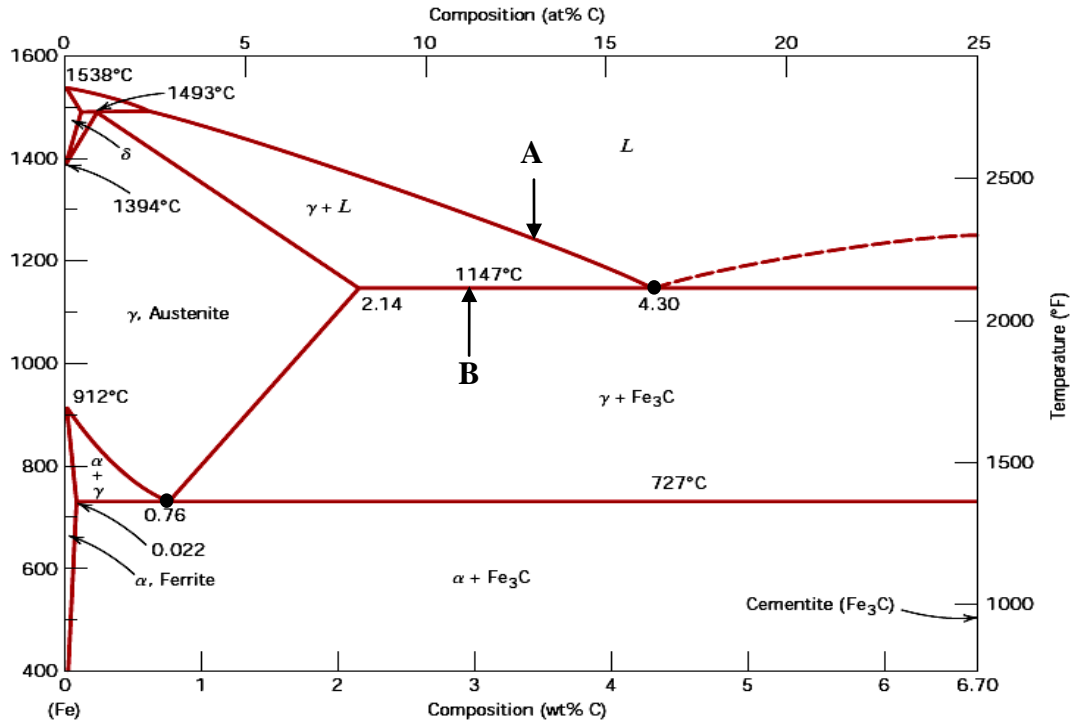

Figure 1. Fe – C Phase Diagram
**SECTION B (Total: 40 marks)****INSTRUCTION: Answer TWO (2) questions only****Please use the answer booklet provided.****Question 1**
- a) List **TWO (2)** method in applying etching solution on a specimen. (4 marks)
- a) By referring to the Fe – C phase diagram in Figure 1, answer the following:
- iv. List **TWO (2)** characteristics of ferrite phase. (20 marks)